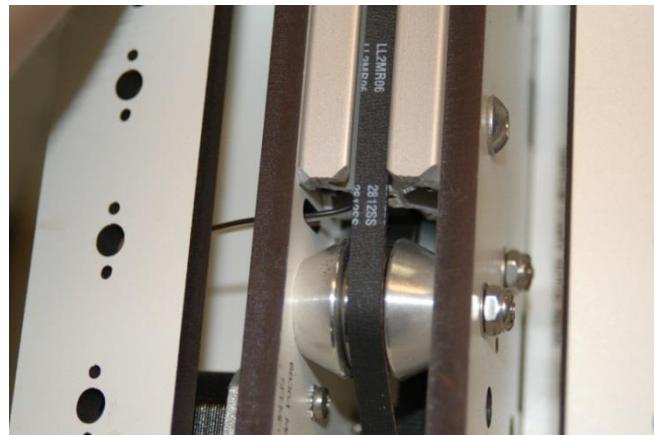

Figure 90 - Wire exiting the tower rail.
19.7 - At the bottom of the tower, the wire should exit the rail as shown in Fig. 90.